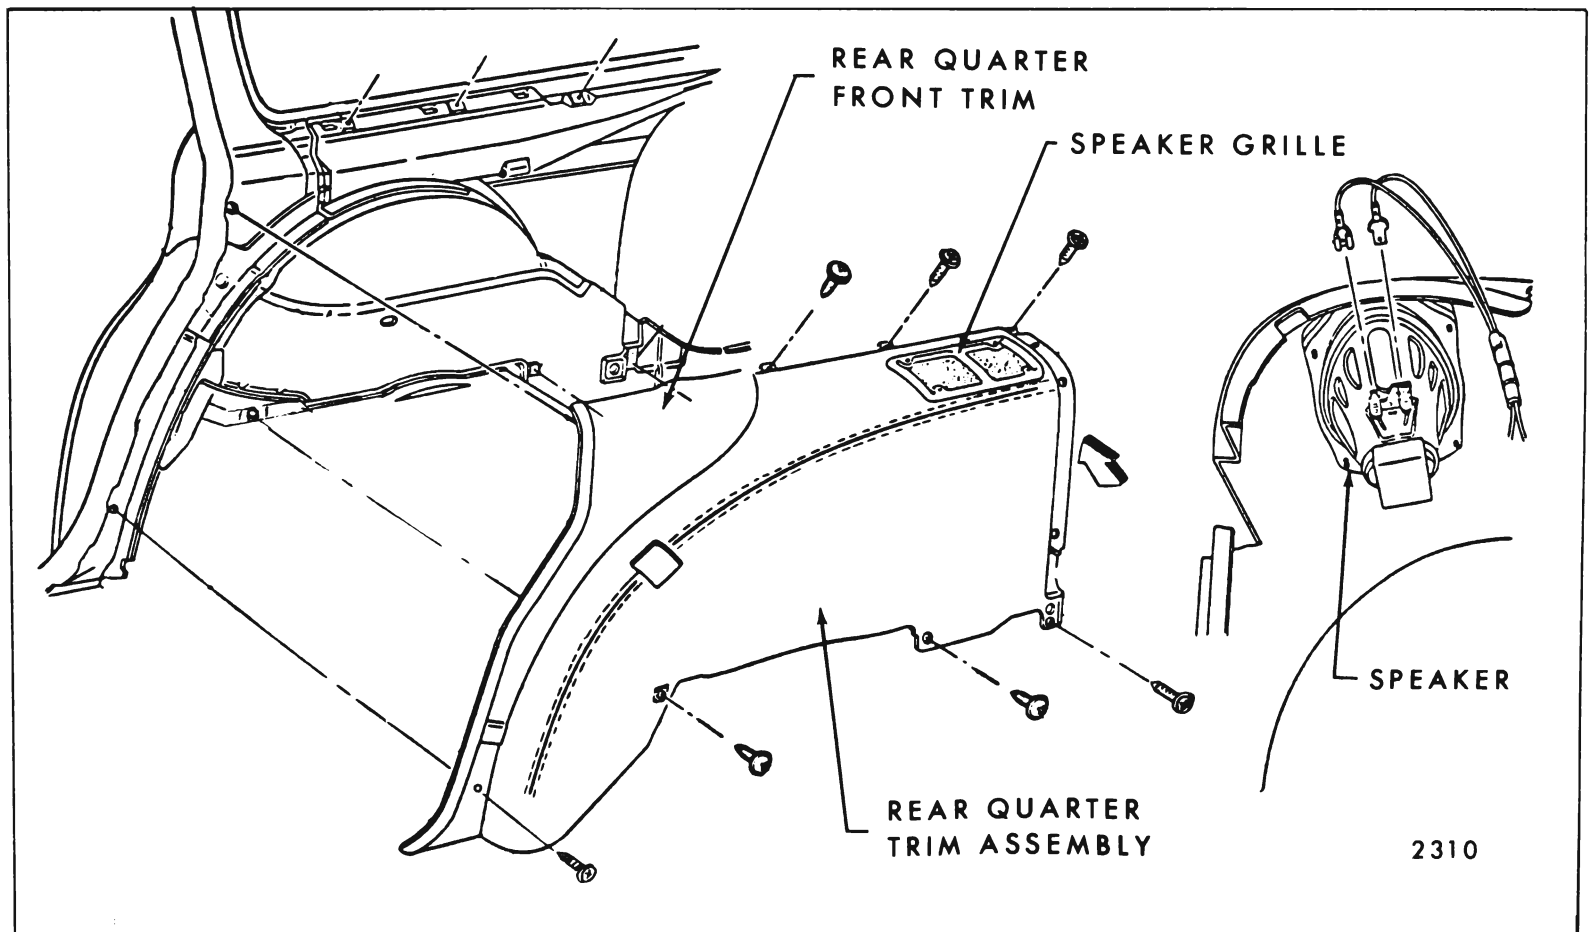

Fig. 8-17—Rear Quarter Trim Panel Right Side - "B" Station Wagons
- Remove all screws securing trim panel to rear quarter inner panel (Fig. 8-17).
4. With a suitable flat-bladed tool, carefully disengage trim retainers from rear quarter inner panel along leading edge of rear body lock pillar (on front edge of rear quarter front trim assembly). (Fig. 8-17).